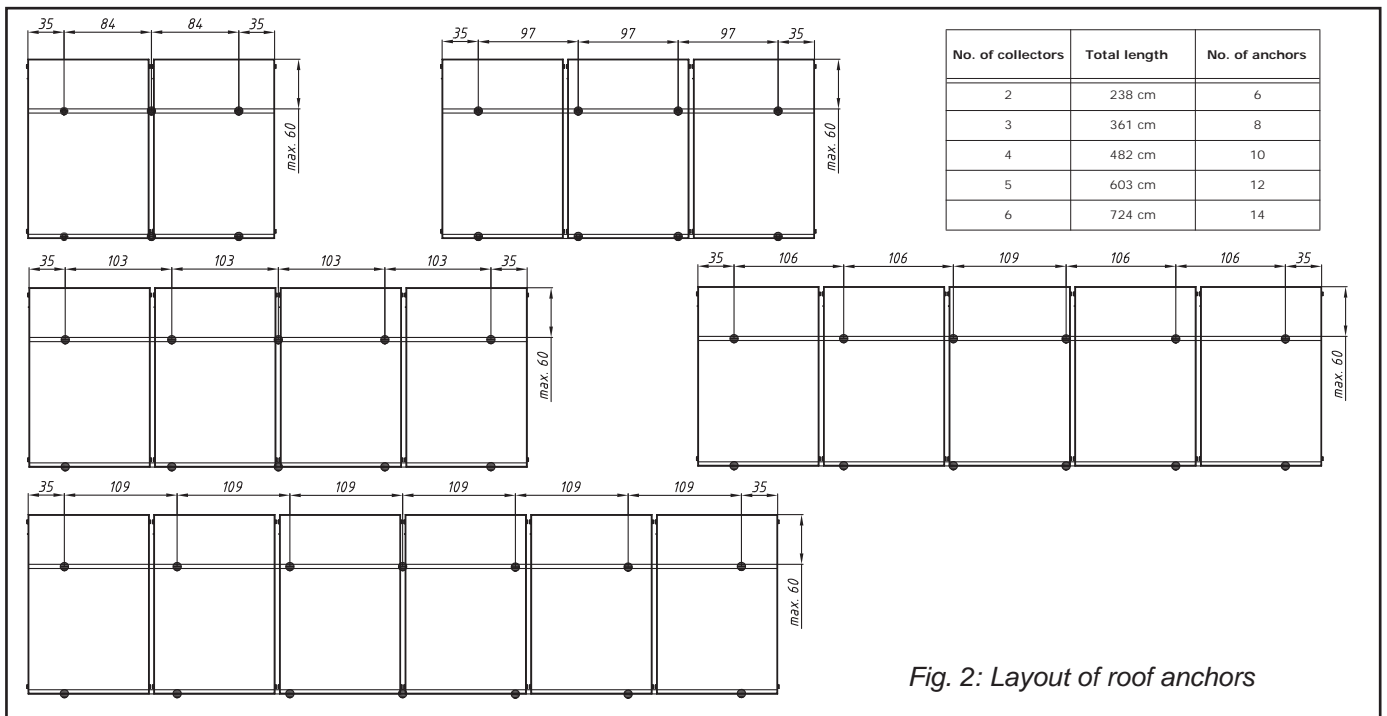
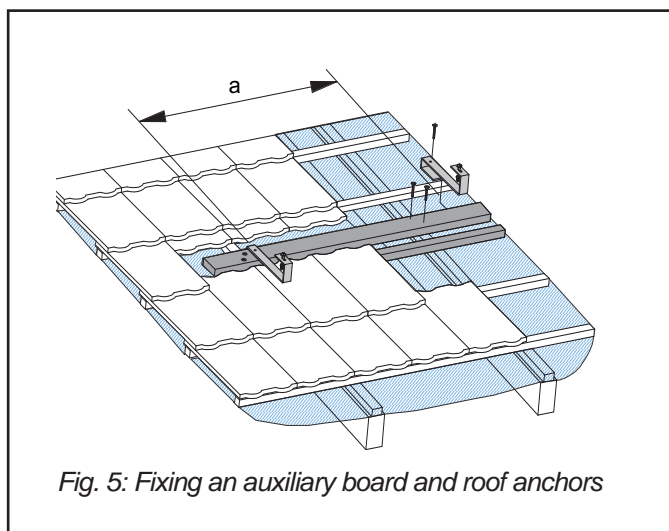
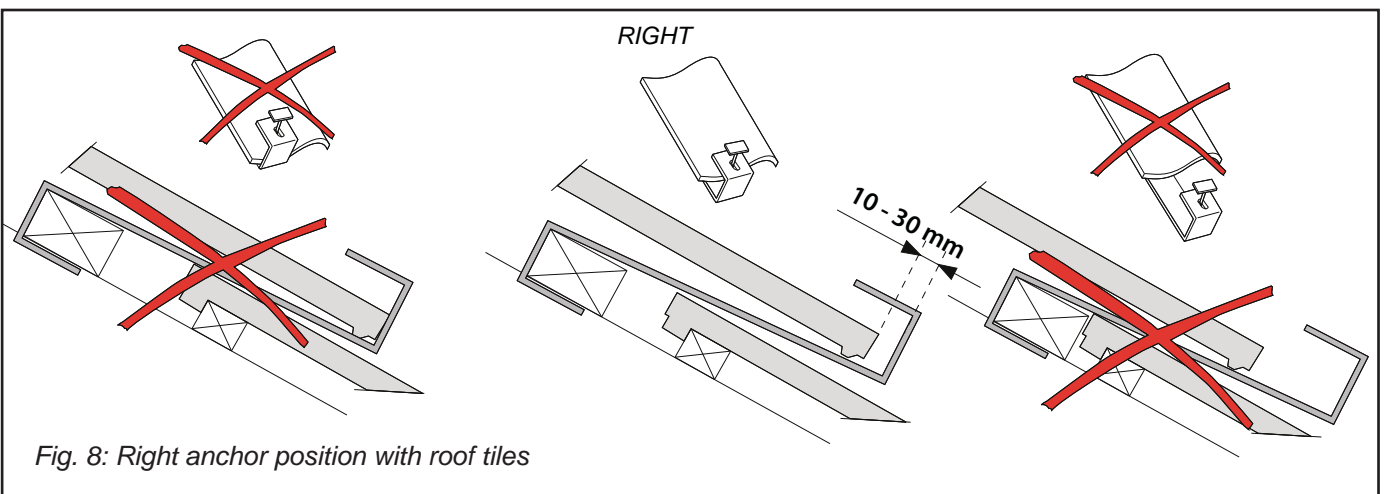

Fig. 2: Layout of roof anchors
Fig. 5: Fixing an auxiliary board and roof anchors
Fig. 8: Right anchor position with roof tiles
tion of anchors resembles the positions in Fig. 2. At the same time screw the boards so high that the roof anchor does not hinder placing the roof tile with the right overlap (see Fig. 8).
- Hang the roof anchors onto the auxiliary board respecting their distribution shown in Fig. 2.
- Remove roofing in places where anchors shall be fixed (Fig. 5). The distance "a" between anchors is defined in Fig. 2.
- Depending on the number of collectors, measure and calculate the positions for fixing roof anchors (Fig. 2). Such places shall be selected for mounting where anchors can be fixed sufficiently into the roof frame (rafter or similar).